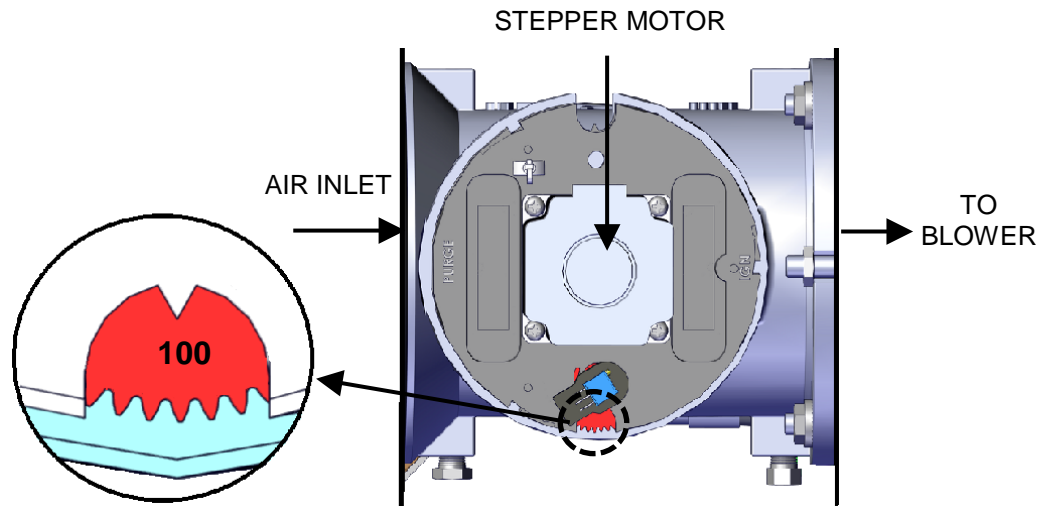

Figure 3-2a: BMK 750 & 1000 Air/Fuel Valve in Purge Position
- b. The Air/Fuel Valve rotates to the full-open purge position and closes purge position switch. The dial on the Air/Fuel Valve (Figure 3-2a and 3-2b) will read **100** to indicate that it is full-open (100%).